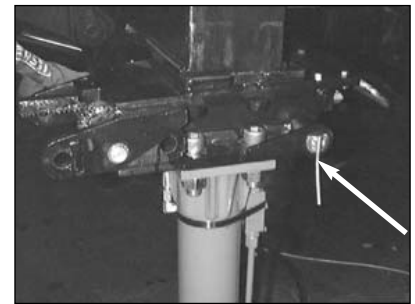

fig. 37
- Insert the pin in its new seat and secure with the check pin (fig. 37)